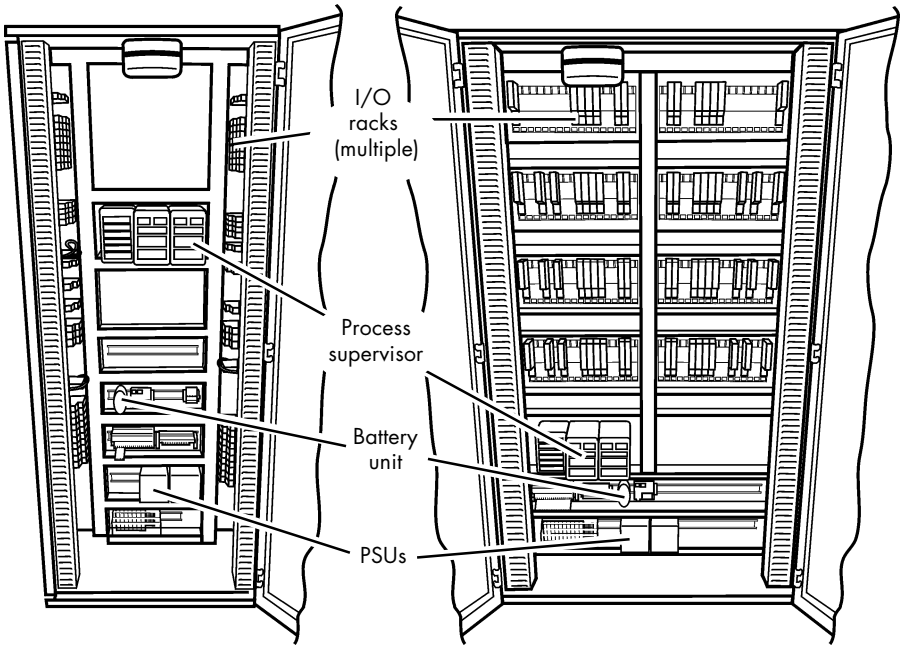

Figure 1.3.2c Typical installations
- **Enclosures** (Figure 1.3.2c). Process supervisor units can be supplied in a range of enclosures, both wall-mounted and floor-standing. Power supplies, standard terminations, transmitter power supplies, and I/O modules can all be fitted within these enclosures, and if required, a visual supervisor unit can be door mounted to allow a visual representation of process variables.